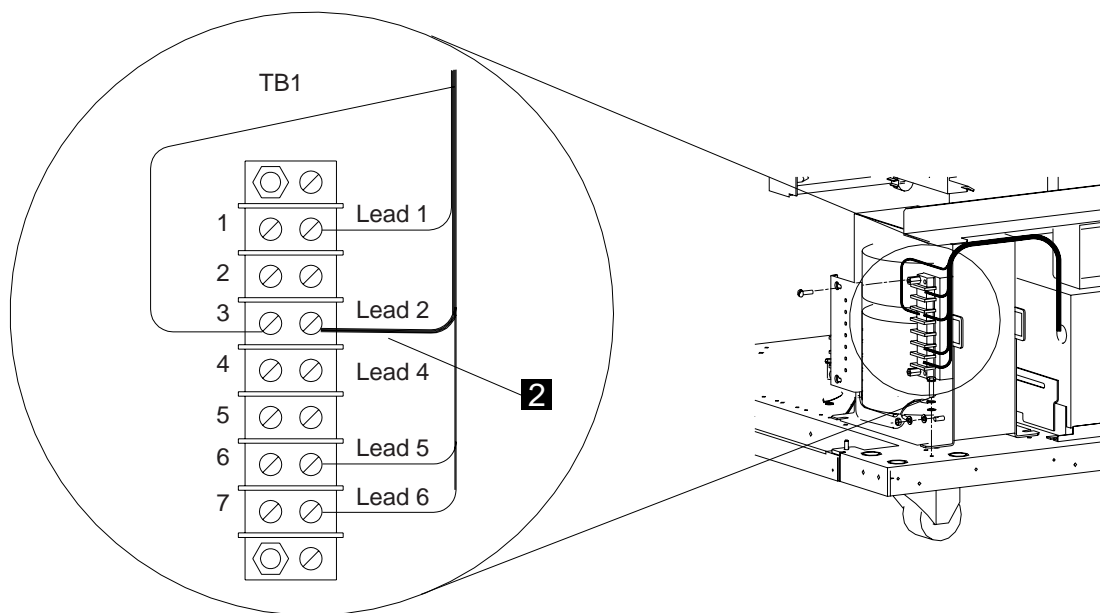

Figure 2-28. ac Power Transformer Connection
2. According to the voltage recorded previously in step 2 on page 2-25, move the cable lead **2** from 01Q-A1 TB1-2 to TB1-3 or to TB1-4 (see Figure 2-28).